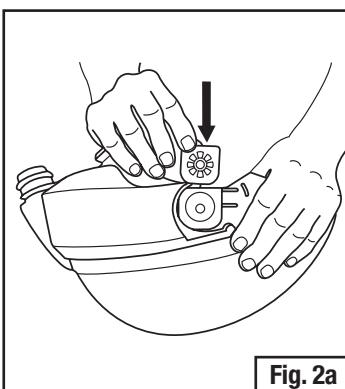

Fig. 2a
- Install back plate into the headgear shell. When installing the “wind mill” pattern should be facing outwards and the “M-960” marking will be located on the bottom of the plate. Install rounded edge first and slide completely into the slot (Fig. 2a). Gently push down on the back plate to ensure it is flush to the bottom of the slot.